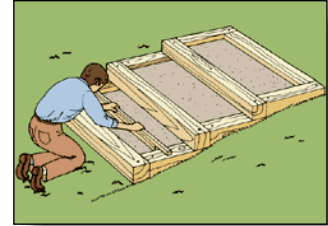

Figure 6
- Line the area inside each set of timbers with non-woven geotextile fabric. Make sure the fabric is long enough to extend a few inches up the sides of the timbers (figure 6).